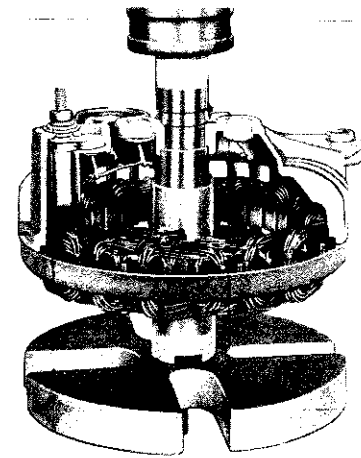

Fig. 37—Installing the Rectifier End Shield Bearings
(6) Support the end shield on Tool C-3925 so that the notches in the support tool will clean the raised section of the heat sink and press the bearing into position with Tool SP-3381 (Fig. 37).